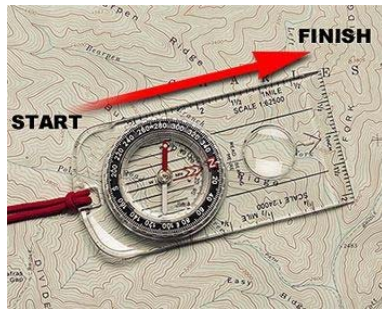

Figure 8
1. Place compass on map with base plate edge connecting to where you are (start “A”) and where you want to go (finish “B”). Fig. 8